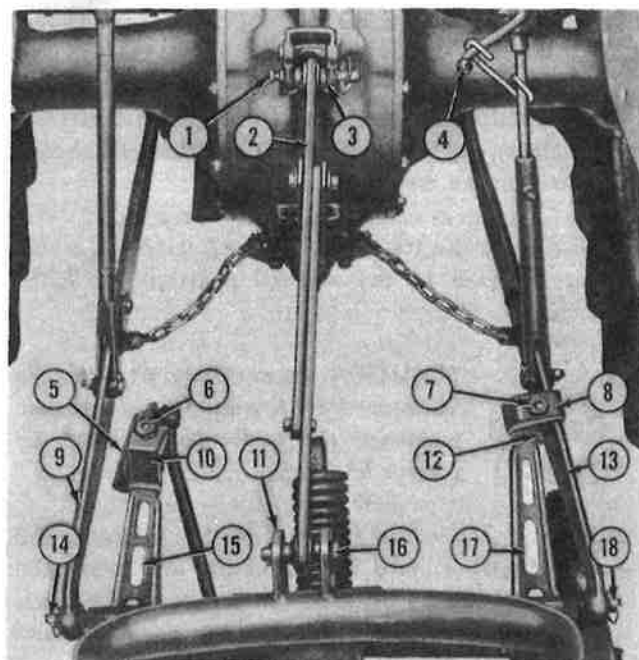
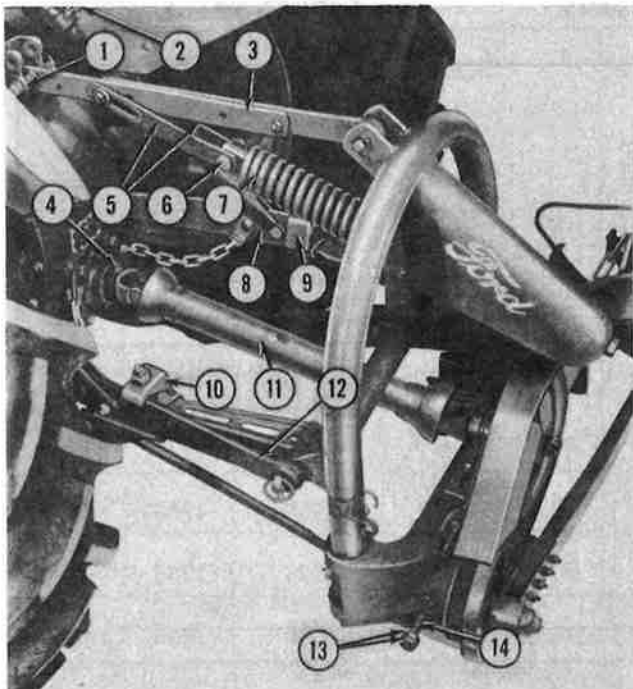
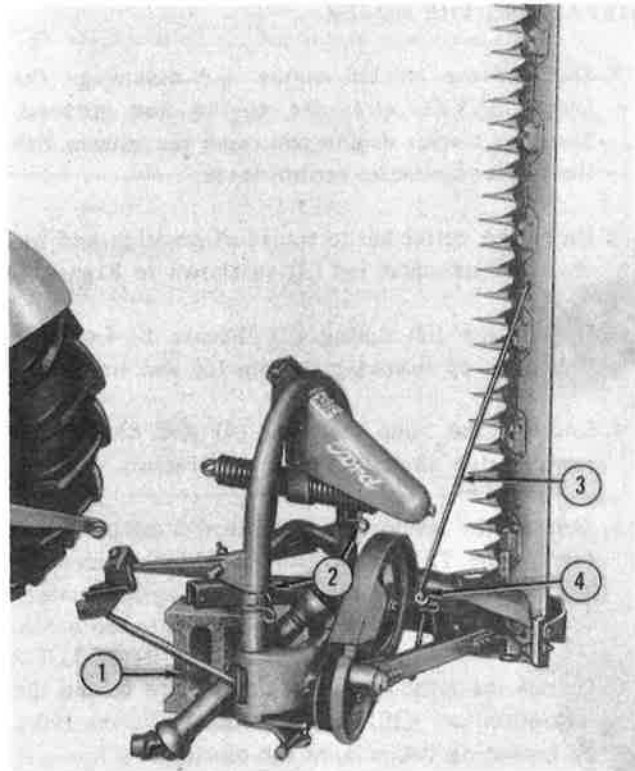

Figure 2
Figure 6
Figure 7
2. Back the tractor into position, as shown in Figure 2, and attach the tractor left lower link (9) to the lift link pin (14). Secure with the tractor linch pin.
3. Roll the tractor and/or adjust the leveling crank (4), until the tractor right lower link (13) is aligned with the right link pin (18) and secure with the tractor linch pin as shown.
5. Start the tractor engine and raise the mower frame assembly just off the ground with the tractor hydraulic control lever and shift the mower to the left to attach the left stabilizer (15), Figure 2, when attaching the mower to Ford 2000 and 3000 Tractors. Position the stabilizer guide (5) under the tractor left lift link (9), set the clamp (10) over the top of the link (9) and tighten the nut (6) securely.
7. Shift the mower frame assembly to the right to attach the right stabilizer (17), Figure 2. Position the stabilizer guide (12) under the tractor right lift link (13), set the clamp (8) over the top of the link as shown, and tighten the nut (7) securely.
8. Raise the mower with the tractor hydraulic control lever and attach the mower lift spring (7), Figure 6, to the spring links (5) with the 3/4" x 1-7/8" headed pin (6) and lynch pin provided. Lower the mower and turn off the tractor engine. See page 12 for lift spring adjustment.
9. Remove the tractor P.T.O. cap and attach the female splined end of the mower drive shaft (11) to the tractor P.T.O. shaft securing it with the snap coupler (4) on the yoke. See Figure 6.
10. Level the mower with the tractor leveling crank (2), Figure 6, so the lower frame is parallel to the ground. Secure the leveling crank to the lift rod with the leveling crank lock, as shown in Figure 2. Place the transport rod (3), Figure 7, in the clips (2) when not in use.
1. Disengage the tractor P.T.O. and raise the cutter bar by hand to the vertical position shown in Figure 7.
2. Insert the notched flat end of the transport rod (3), Figure 7, into the cutter bar and rotate the rod until the notch locks on the cutter bar. Adjust the position of the cutter bar and the transport rod to align the hooked end of the rod and the eye (4) on the lower frame.
1. Make sure the mower lower frame is parallel to the ground and adjust if necessary, with the tractor leveling crank (2), Figure 7. The tractor right lower link should be approximately three inches lower than the left lower link.
2. Raise the cutter bar to transport position and install the transport rod (3) as shown in Figure 7.
3. Detach the lift spring (7), Figure 6, from the links (5), by removing the pin (6) and linch pin.
4. Depress the snap coupling (4) and detach the mower drive shaft (11) from the tractor.
5. Shut off the tractor engine, place a cement block (1), Figure 7, or other suitable block under the mower to support the mower in approximately the operating position and lower it onto the block.
6. Detach the right stabilizer (9), Figure 6, and the left stabilizer (10) from the tractor lower links by loosening the nuts on the clamps.
7. Detach the upper link (3) from the tractor hydraulic lift rocker (1), Figure 6.
8. Detach the tractor lower links (8) and (12), Figure 6, from the mower, start the tractor engine, and slowly drive the tractor clear of the mower.